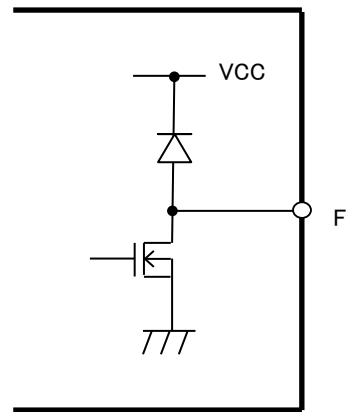

FIGURE 2.2.4 Equivalent Circuit Around F Pin
- Note 5: The equivalent circuit is shown in FIGURE 2.2.4.